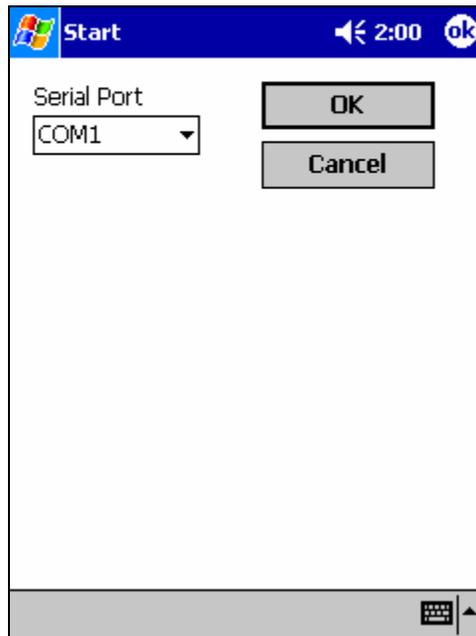

Figure 7. *iCFR Serial Port Selection Menu.*
- 5) The first time the program runs, it will ask for the location of the iCFR as in Figure 7 below.